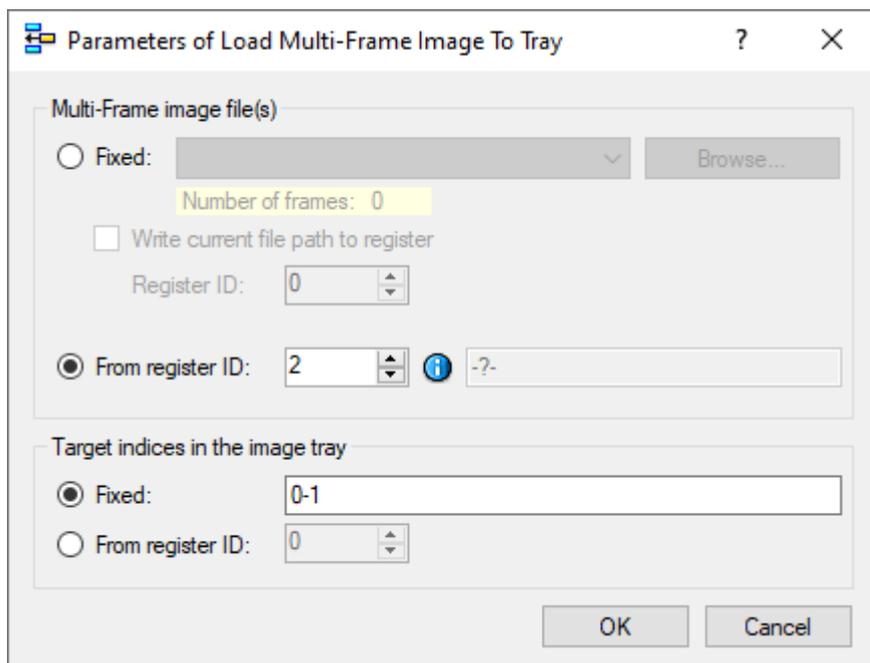

Figure 2: Load Multi Frame Image to Tray
- b. In the „Offline image acquisition“ a check function of the type „Acquire image“ must be configured, which takes an image of the virtual camera. In the active Offline Mode, the path of the current file is written to register 2 each time an image is captured. All frames of this file are then copied to the NeuroCheck data tray using the „Load Multi-Frame Image to Tray“ check function of the „PI_ImageTools“ plug-in (see Figure 2).